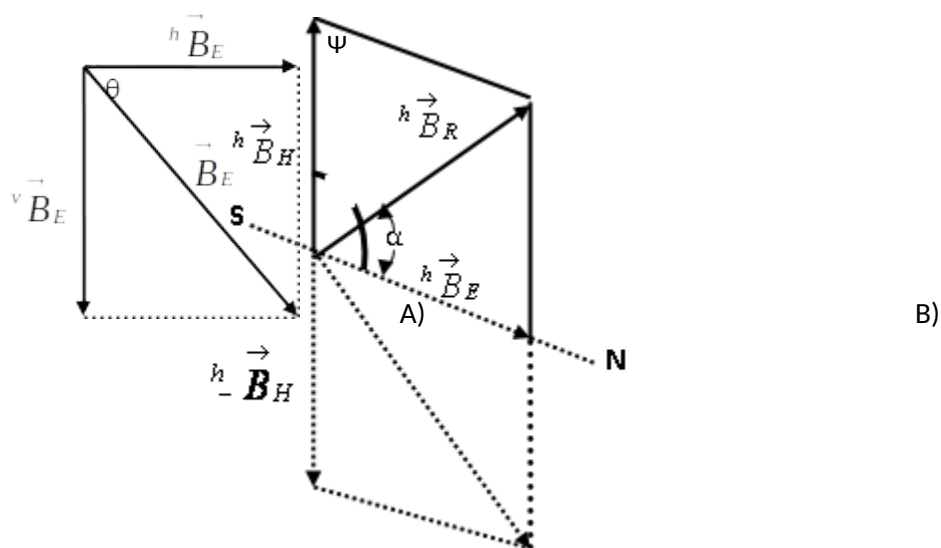

Fig:1. Vector diagram for magnetic flux densities. (A) horizontal plane (B) vertical plane
point in the direction of the resulting B_R . Figure:1 displays the vector diagram for the magnetic flux densities involved. Fig:1(A) shows the field components for the general case